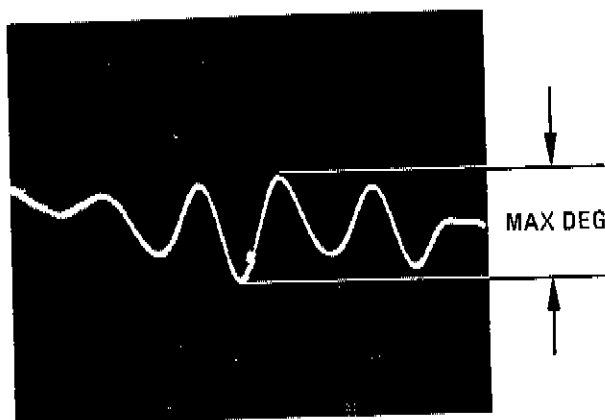

Figure 15. TEST Port Open/Short Ratio Phase > 2 MHz
- 4.4.14 (5) Measure the maximum peak-to-peak variation on the display (Figure 15) and record the results (See Figure 14):